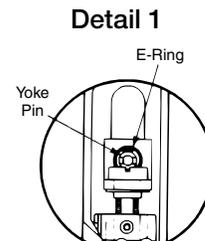

Figure 17
- B. Seat device in place. Connect device to arm and bracket assemblies using temporary screws to position yoke pins in latch head. Install e-ring into yoke pin grooves. (Detail 1 - Figure 17)